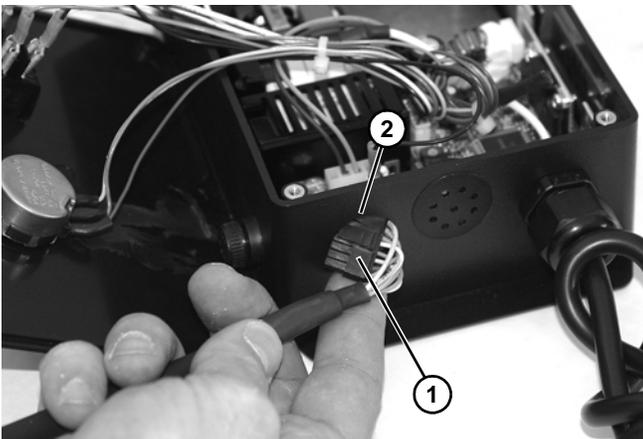

Figure 28
6. Turn connector (Figure 28, item 1), as shown, and remove wiring and connector through controller opening (Figure 28, item 2).